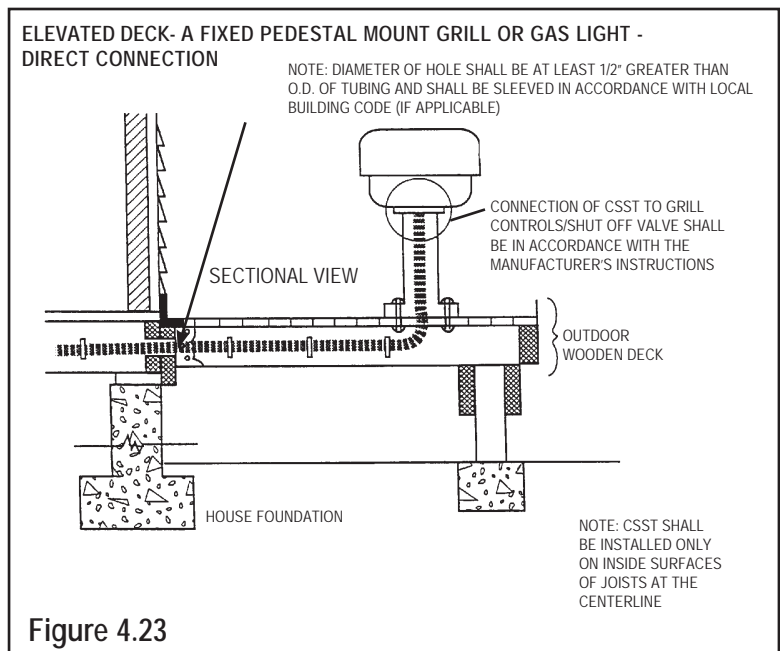

Figure 4.23
- B. Permanently mounted grills located on decks shall be connected to the CSST system as shown in figure 4.23 and in accordance with the manufacturer’s instructions. The outdoor portion of the CSST system shall be supported against the side of any inside deck joist.
- C. Permanently mounted outdoor lights located on decks shall be connected to the CSST system in the manner as permanently mounted grills as shown in figure 4.23 and in accordance with manufacturer’s instructions.